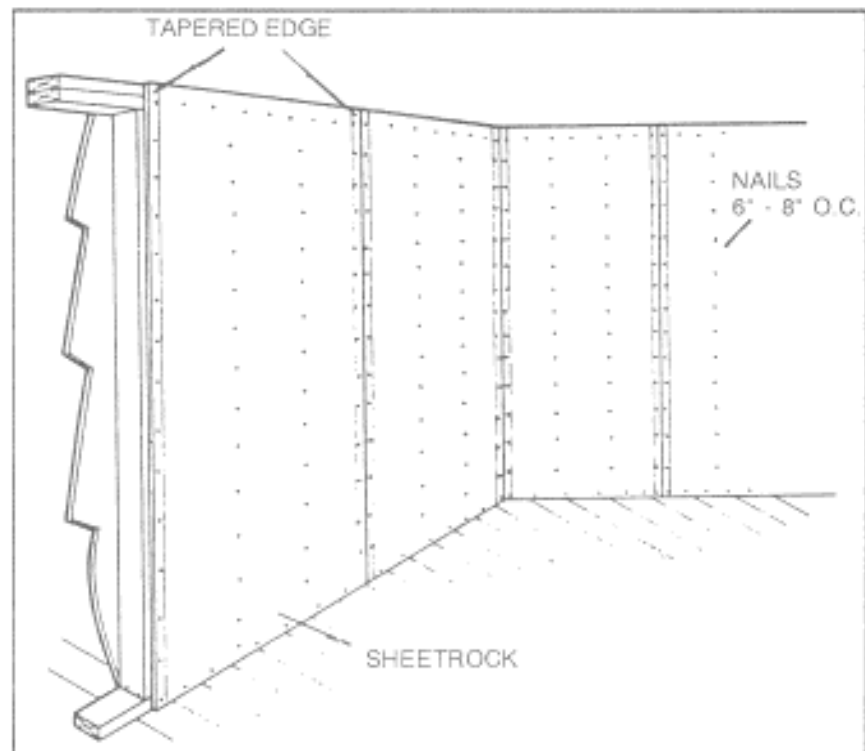
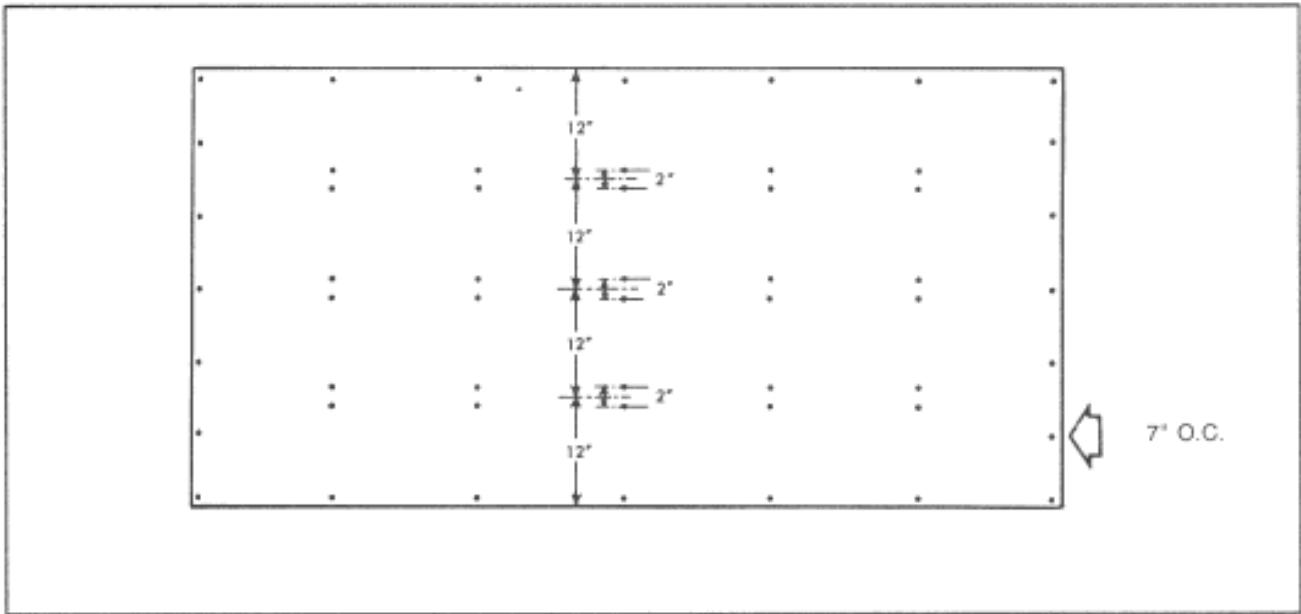

Figure 9-3. Sheetrock applied vertically
Figure 9-4. The double-nailing system for installing sheetrock
**Nails.** If the sheetrock is single nailed, the nails should be spaced 6 to 7 inches apart on the ceilings and 6 to 8 inches apart on the walls (Figure 9-3). If the sheetrock is double nailed, the centers of the nail pairs are approximately 12 inches apart, with each pair 2 to 2 1/2 inches apart and the outer edges 7 inches on center (Figure 9-4). The distance from the edge should be 3/8 to 1/2 inch. Do not double nail around the perimeter of a sheet.